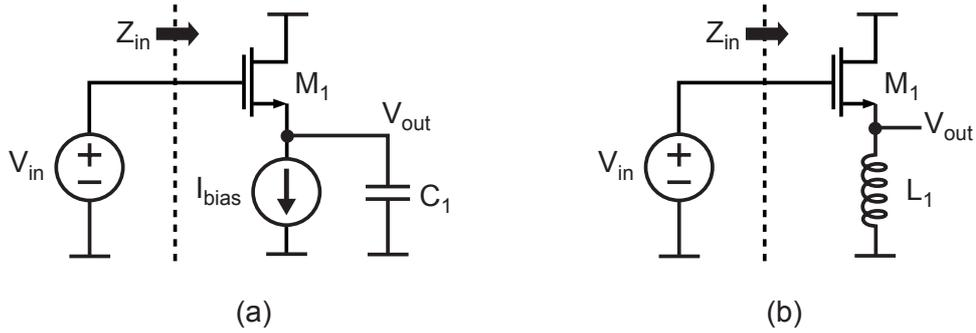

Figure 2: Source follower with a (a) capacitive load, (b) inductive load.
2. The following is based on Problem 7 in Chapter 8 of Thomas Lee's book. In general, high-speed followers, as shown in Figure 2, have a tendency to ring or even oscillate when driving certain loads. Your task is to identify the conditions that may cause this problem and to propose a solution. For derivations, ignore C_{gd} , r_o , and backgate parasitics of M_1 .